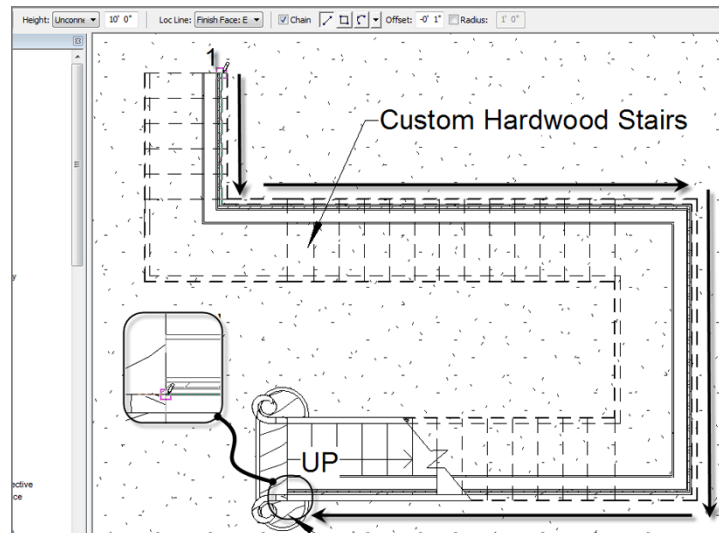

FIGURE 16.11: Placing the wall clockwise in the model
34. Draw the wall by snapping to the inside of the stringers, as shown in Figure 16.11. You want to go in a clockwise direction, so start with the northern part of the staircase, marked 1 in Figure 16.11.